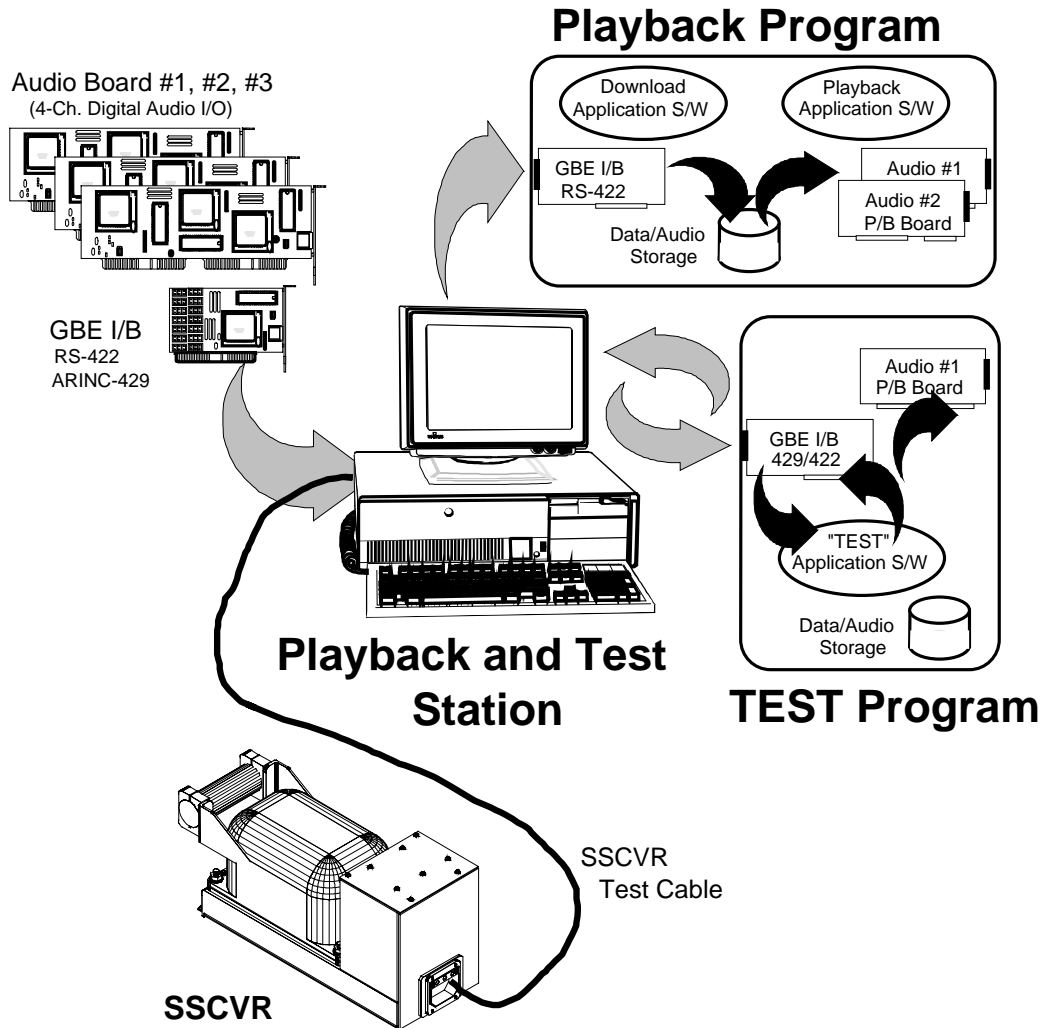

Figure 11: SSCVR Playback and Test System Configuration
The Playback and Test Station (PATS) is a cost effective shop level personal computer (PC) based system with associated software which performs download of SSCVR recording memory, decompression and playback of the downloaded data, and acceptance test of the SSCVR. Because the "TEST" function does not preserve the data contained in the recording memory, the PATS operations are segmented into two distinct applications; "Playback" and "TEST". This provides a level of protection against unintentional erasure or re-write of recorded audio. Figure 11 shows the PATS in its SSCVR test configuration.